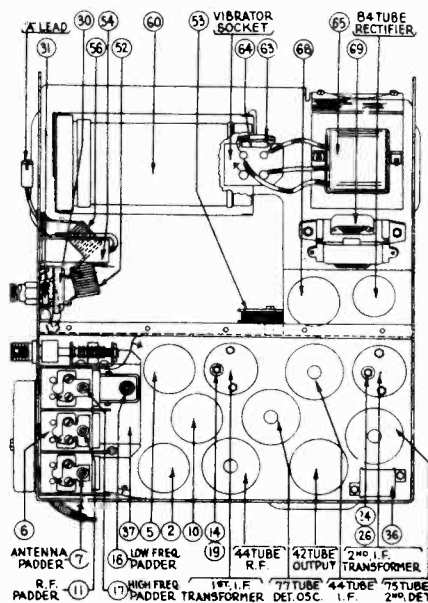

FIG. 2
Remove the cover from the Receiver and disconnect the grid clip from the 77 tube. (For location see Fig. 2.)
The primary screw padders ⑫ and ⑭ must be screwed all the way in. (Figs. 2 and 3.) The secondary nut padders ⑮ and ⑯ must then be adjusted. These padders should be adjusted for maximum reading on the output meter.